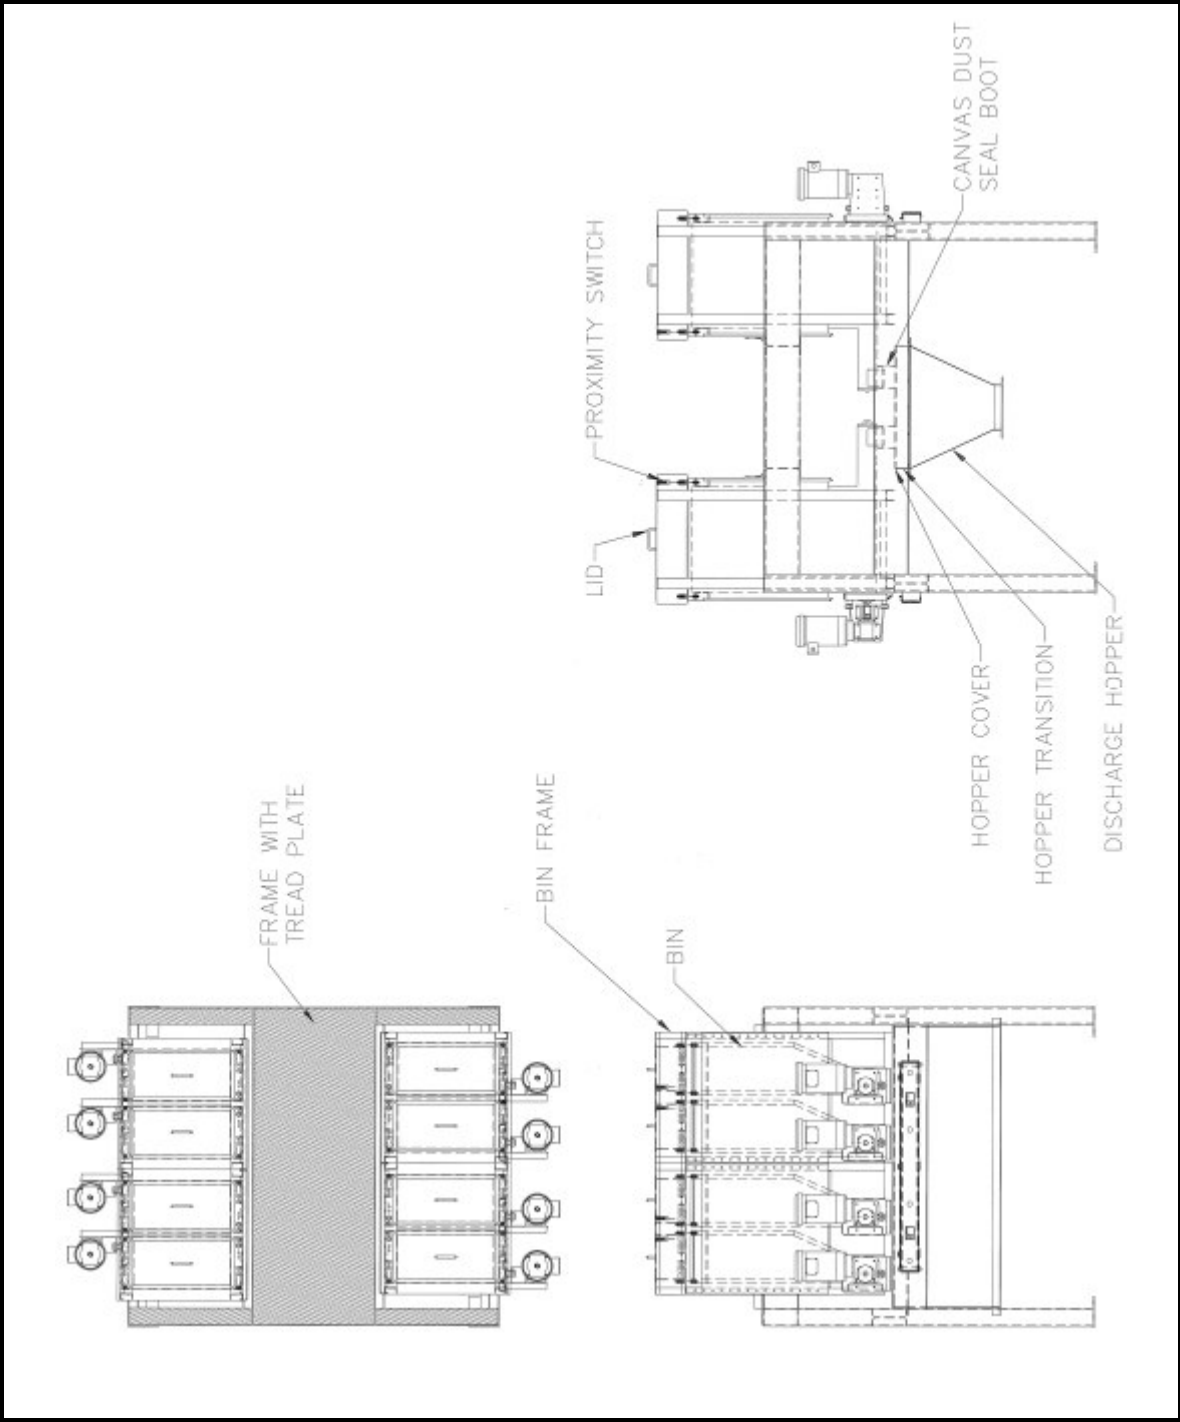

FIGURE 2-2 TYPICAL WEIGHT LOSS (MS2) MICROSYSTEM
2.1.2 Weight Loss (MS2) (FIGURE 2-2)